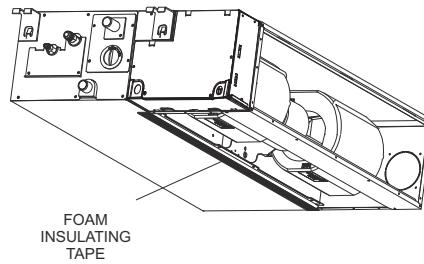

Fig. 16 — Applying Foam Insulation Tape
1. Apply foam insulating tape to the return air opening on the bottom of the unit. See Fig. 16 below.